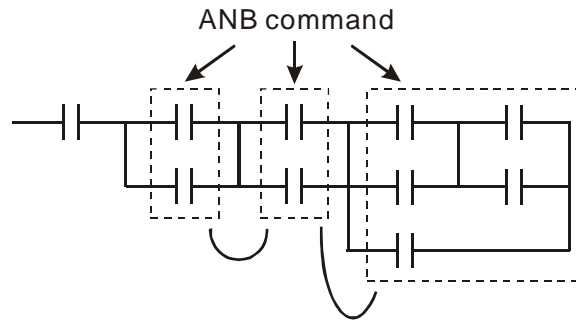

Figure 16-34
**ANB command:** a configuration in which one block is in series with one device or block. See Figure 16-34.